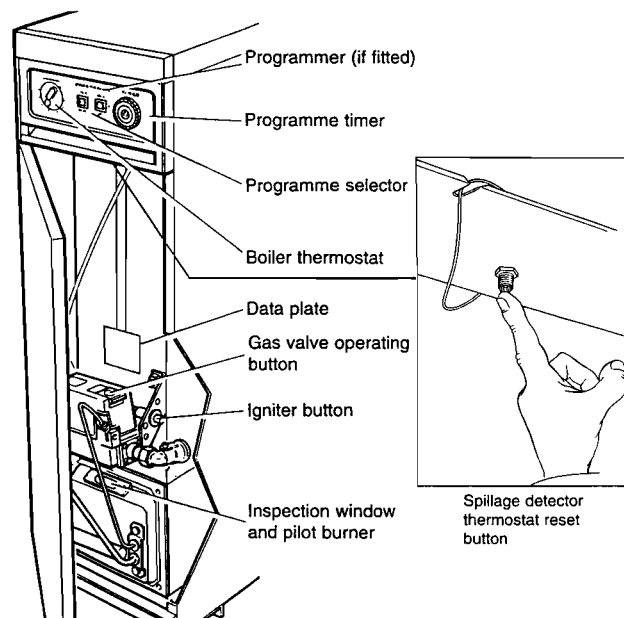

Fig. 1
Open the case door and refer to Fig 1. for the boiler controls
7. **FAILURE TO OPERATE. C Models only.** If the main burner fails to light turn the boiler thermostat to the 'off' position and check that the spillage detector thermostat reset button (see Fig. 1) is pressed in and then repeat operation 4. If the reset button has to be pressed in again within a short time or the burner fails to light call your service engineer. Turn the thermostat if fitted, to the programme times required.